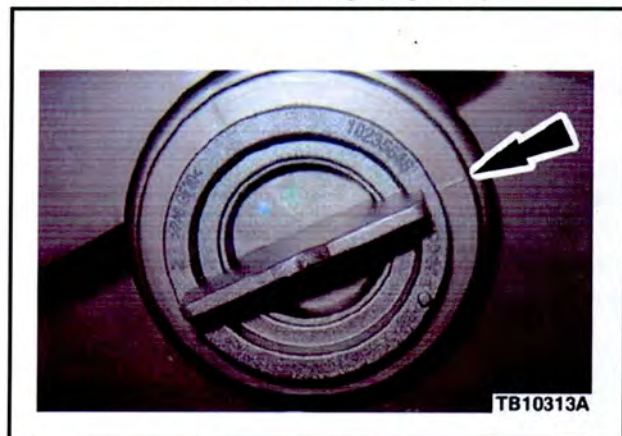

Figure 6 - Article 12-7-12
- d. Verify the socket lines up with the arrow on the headlamp housing. (Figure 6)